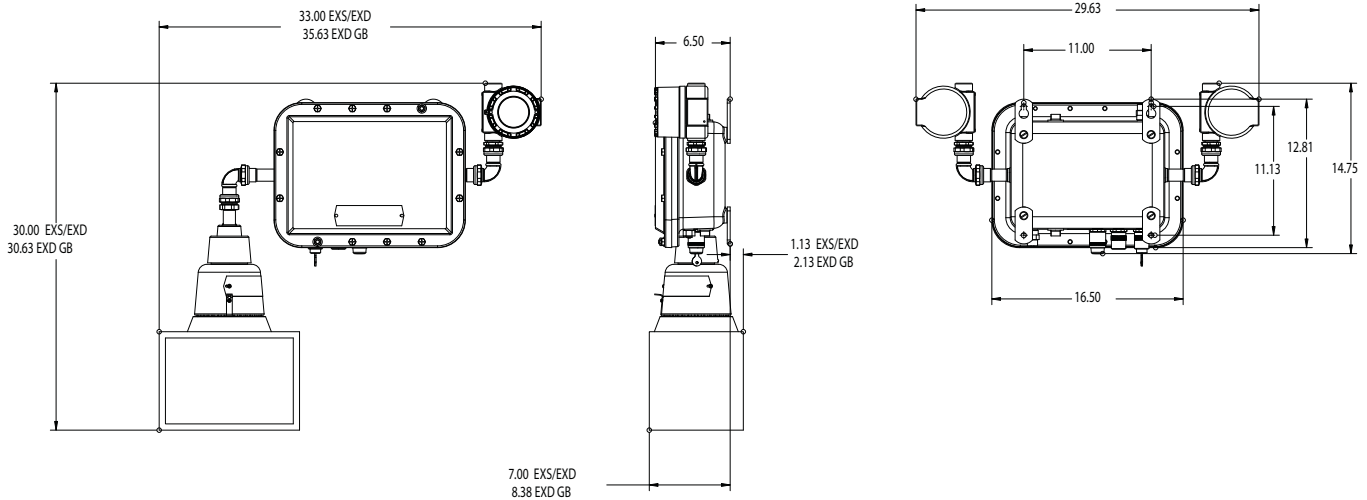

Figure 1. ELPS502 and ELPS502 EXS / EXD Dimensions
1. Select mounting location that will provide suitable strength and rigidity for supporting power supply and attached lighting fixtures. Figure 1 shows the overall dimensions and mounting dimensions for the four mounting feet.